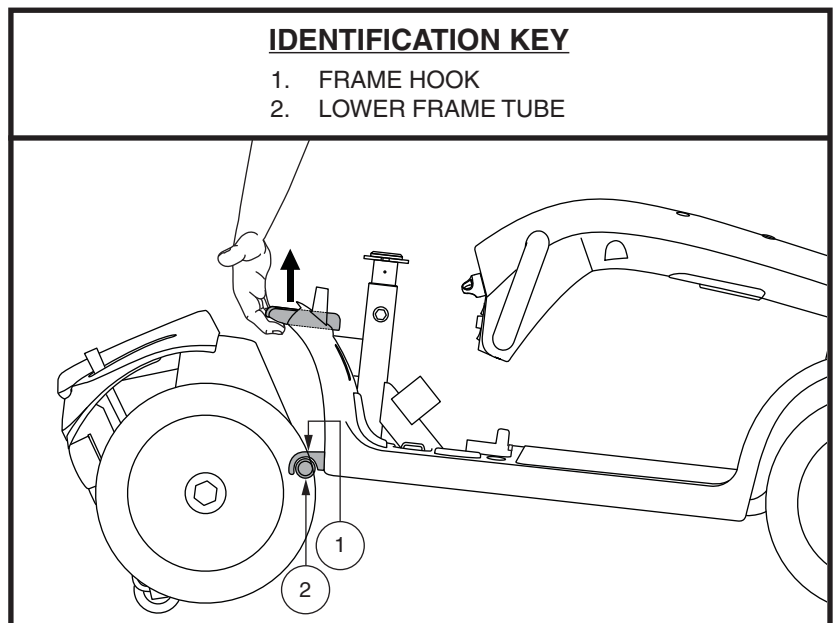

Figure 24. Frame Release Lever
3. Grasp and lift up on the frame release lever. **See figure 24.**
1. Position the front and rear sections of your scooter as shown in **figure 24.**